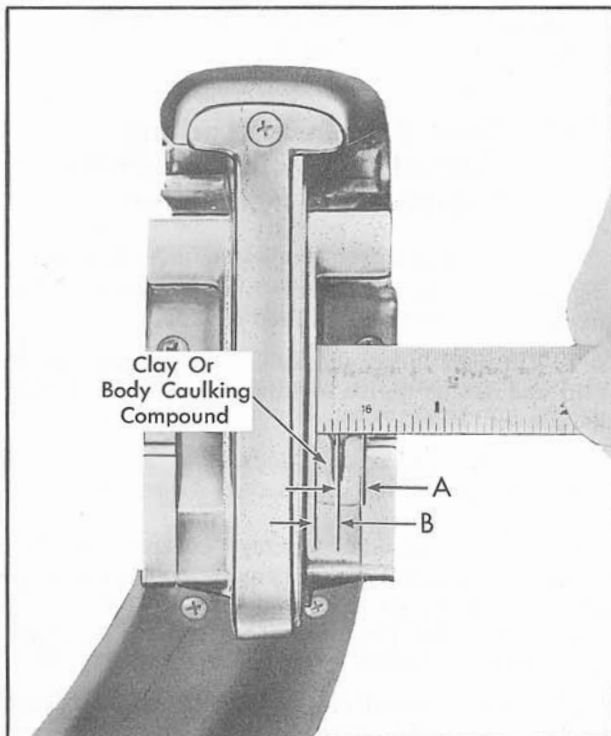

Fig. 17-17 Door Lock Striker Adjustments
2. To determine if door lock striker spacers are required, apply modeling clay or body caulking compound in the door lock striker notch where the lock extension engages and then close the door to form a measurable impression in the clay or caulking compound, as shown in Fig. 17-17.
NOTE: Dimension "B", Fig. 17-17, from center of lock extension to inside face of striker should never be less than 1/16".